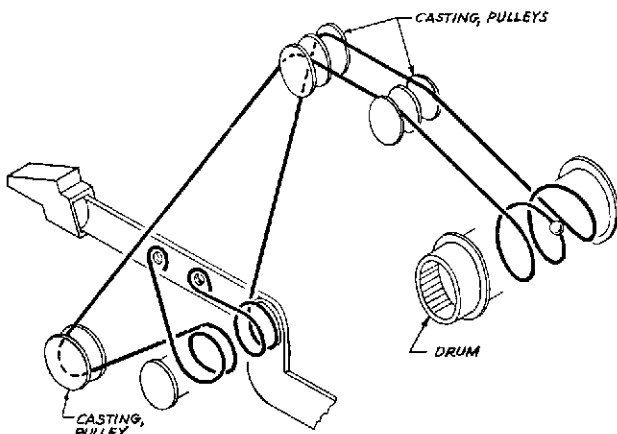

Figure 3-26. CABLE LACING DIAGRAM
- (4). Wrap front cable (longest) 1 3/4 turns counter-clockwise around cable drum and lay it into the front groove of the pulleys (Fig. 3-26). Secure cable to control lever.